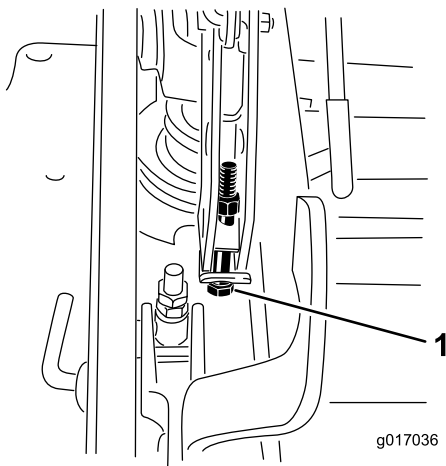

Figure 120
12. If the deck is too low, tighten the single-point-adjustment bolt by rotating it clockwise. If the deck is too high, loosen the single-point-adjustment bolt by rotating it counterclockwise (Figure 120).